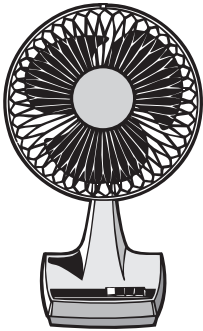

FIGURE P6.19
- 6.19** A household fan of diameter 0.75 m takes air in at 98 kPa, 22°C and delivers it at 105 kPa, 23°C with a velocity of 1.5 m/s (see Fig. P6.19). What are the mass flow rate (kg/s), the inlet velocity, and the outgoing volume flow rate in m³/s?
- 6.51** An ordinary portable fan blows 0.2 kg/s of room air with a velocity of 18 m/s (see Fig. P6.19). What is the minimum power electric motor that can drive it? Hint: Are there any changes in P or T ?